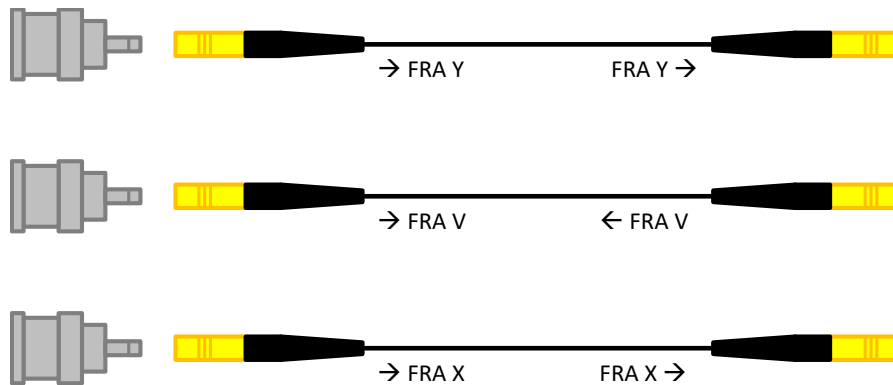

Figure 3 - Configuration of the SMB cables used in combination with the FRA32M module
- For the FRA32M module, the cables must be fitted with SMB to BNC adaptors on a single end (see Figure 3).